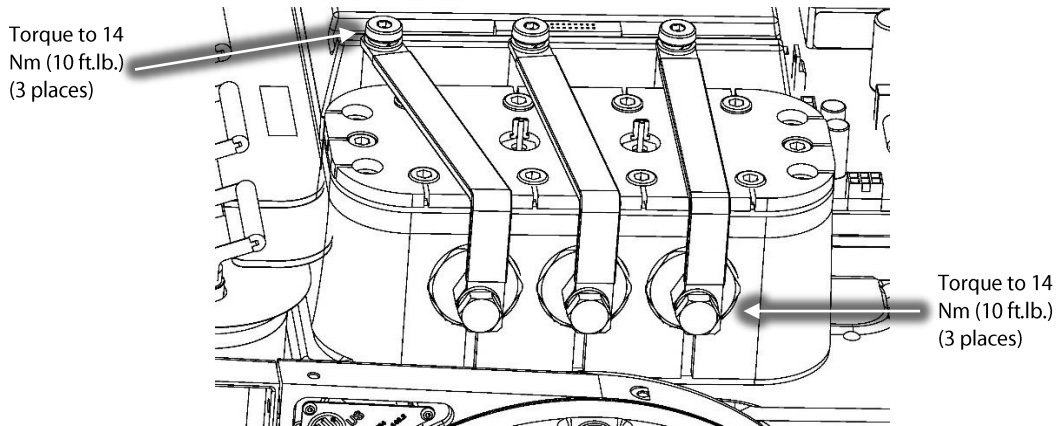

Figure 26 – Motor Bus Bar Installation
12. Install the Motor Bus Bars between the motor high power feed throughs and the Inverter and torque to specification. Install the new Motor Bus Bars on the Inverter and torque to specification. Refer to Figure 26 (Motor Bus Bar Installation).